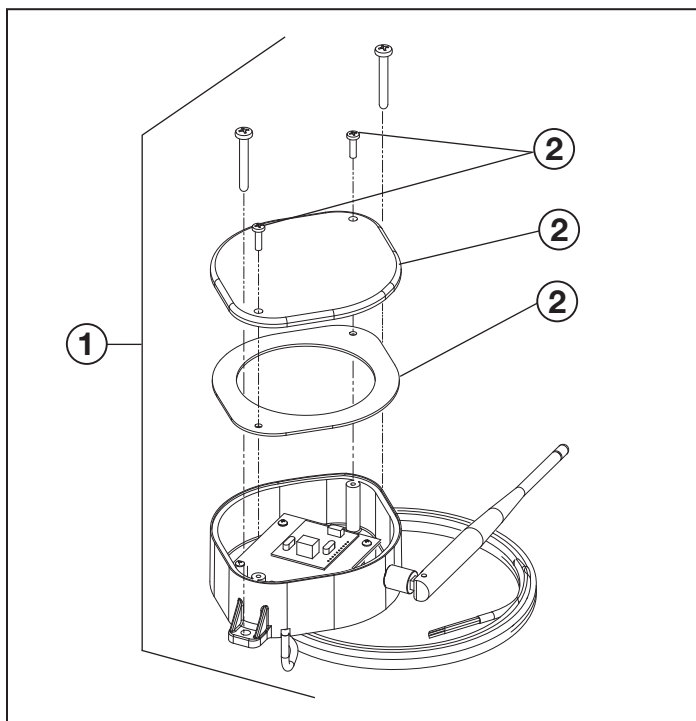

Figure 2. Transceiver J-Box Exploded View
2. Remove the existing two (2) screws that secure the cover to the transceiver J-Box (see Figure 2). Remove the cover.